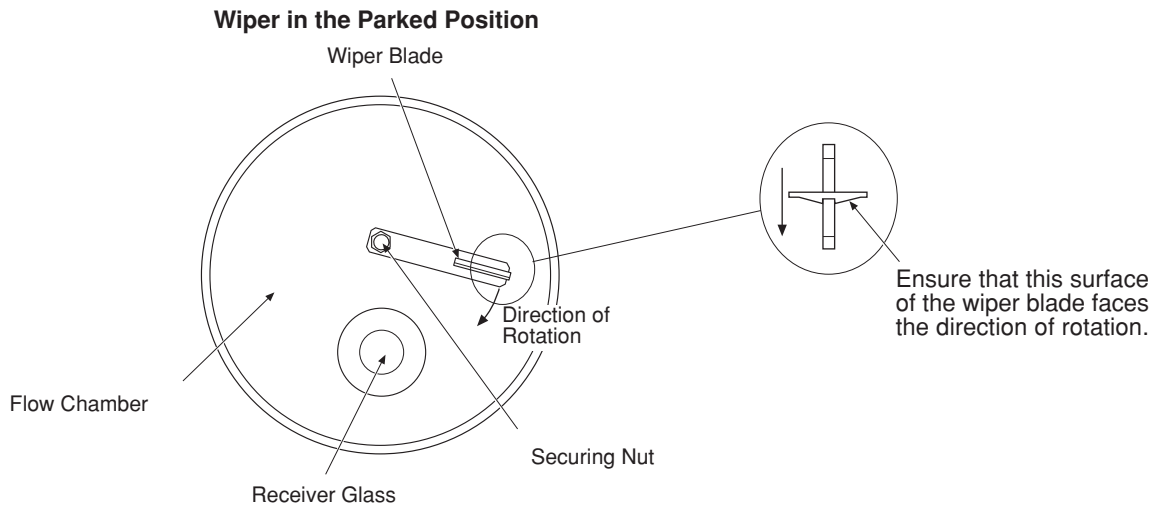

Fig. 6.3 Servicing the Wipers
Inspect the wiper blades for wear or damage and fit new ones if necessary – see Fig. 6.3 for assembly details.
④ Thoroughly check and clean the inside of the cell. The wiper blades can also be serviced/changed – see Fig. 6.3.
⑤ Reassemble.